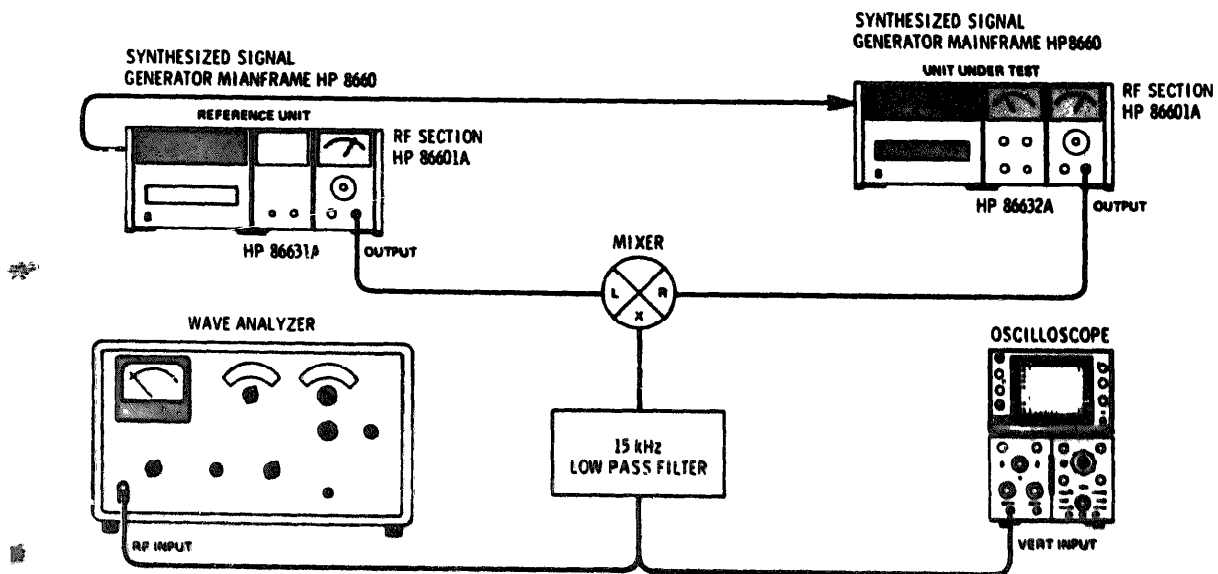

Figure 4-16. Incidental AM Test Setup
1. Connect equipment as shown in Figure 4-16.